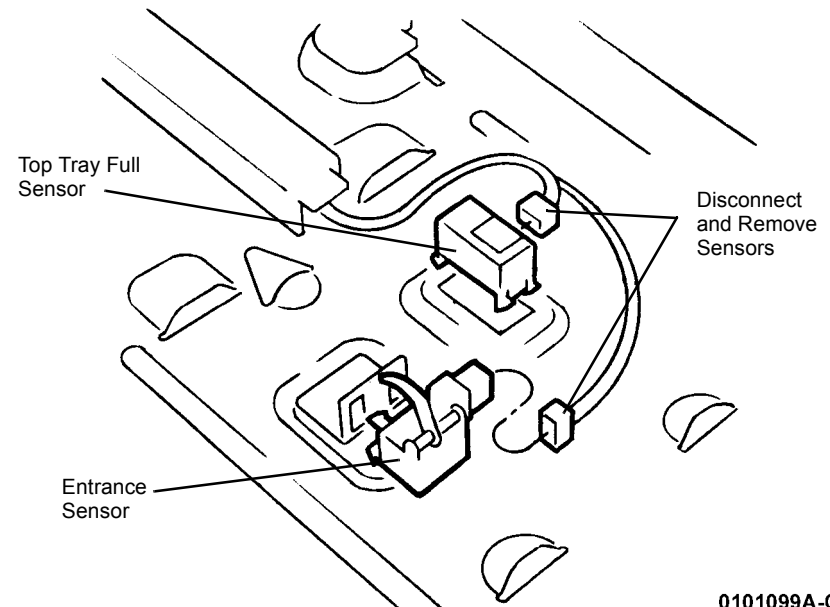

Figure 2 Removing Entrance Sensor and Top Tray Full Sensor
5. Remove the H Transport Entrance Sensor and Top Tray Full Sensor (Figure 2).